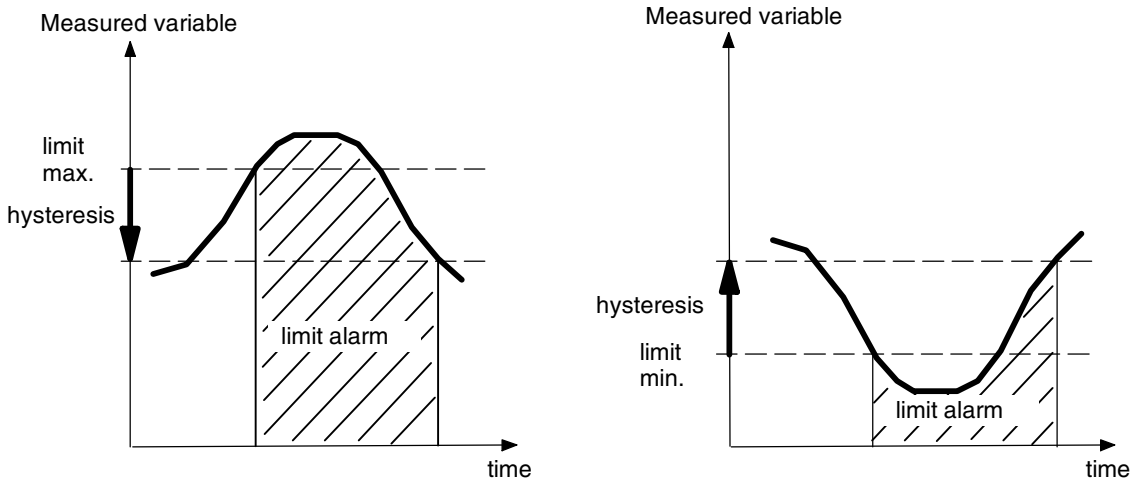

Figure 5-7 Limit value message and hysteresis
- **Hysteresis**, menu item 3.1.3.3
The limit values (menu items 3.1.3.1 and 3.1.3.2) can have a hysteresis added to prevent "fluttering" of the switching output (see Figure 5-7).
- **Density**, menu item 3.1.4